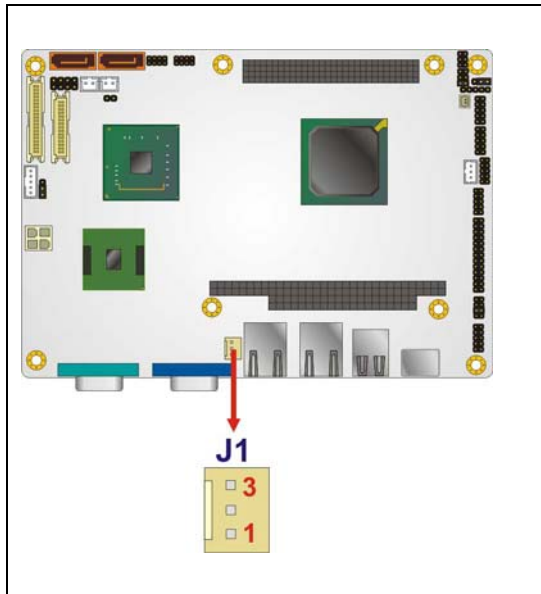

Figure 3-10: +12V Fan Connector Location
- CN Location:** See **Figure 3-10**